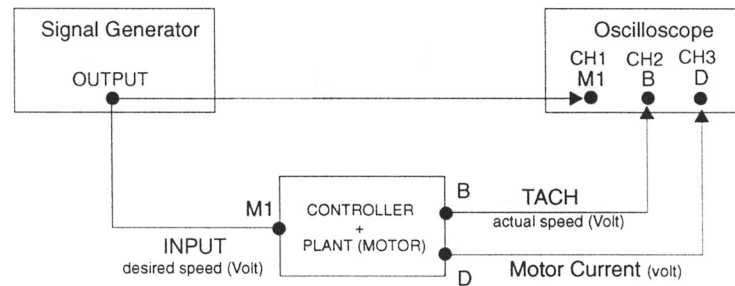
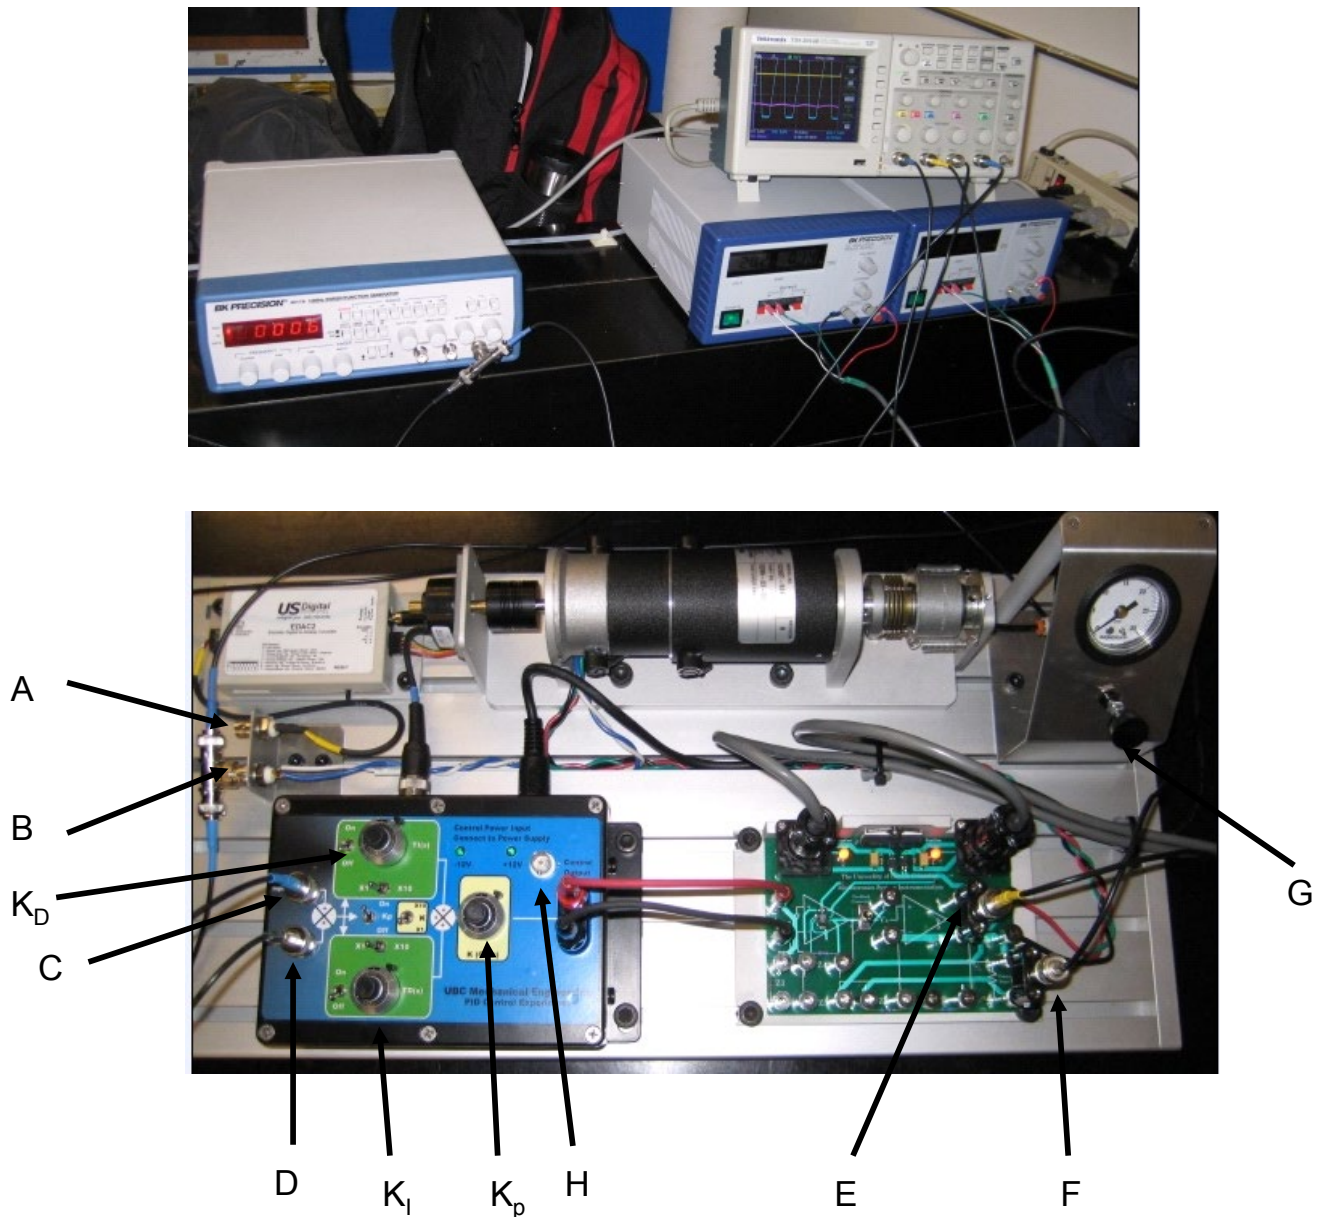

Figure 4. Simplified Overview of the Set-up
Figure 5. View of Front Panel for Linear Actuator Experiment
Figure 4 is a simplified illustration of the experimental set-up. The experiment requires an adjustable input generated by the signal generator (also called *function generator*) to be the input to the plant. The behaviour of the plant and controller can be viewed on the Oscilloscope (*Tectronix 420A*). Figure 5 shows the view of the front panel of the experimental setup. Using cables with BNC connectors, you will wire various portions of the plant together and view the results on the oscilloscope. Figure 5 is also used to illustrate the various connections you need to complete this experiment.
1. Create an **open loop circuit** for the plant using the BNC cables. Refer to Figure 5.
4. Set-up the oscilloscope in order to monitor the operation of the plant. Refer to Figure 5 to connect the required leads to the oscilloscope (you should use the figure to interpret the different components in the system, not as a guide to the exact wiring connections to make as it changes from experiment to experiment – make sure you are in open loop control and measuring the tachometer signal). Using the oscilloscope, connect the input signal to channel 1, the tachometer voltage to channel 2, the motor current to channel 3, and the motor voltage to channel 4.
5. Measure the **actual speed of the motor in volts** as outputs from the tachometer at point B (Figure 5). **Note:** again, you measure peak-to-peak voltage **using the cursors**.
1. Establish a closed loop system by applying the reference signal (7 volts amplitude) to the controller (D). Connect the feedback signal from the tachometer to the feedback input (C). Use Figure 5 to assist with the completion of the control loop.